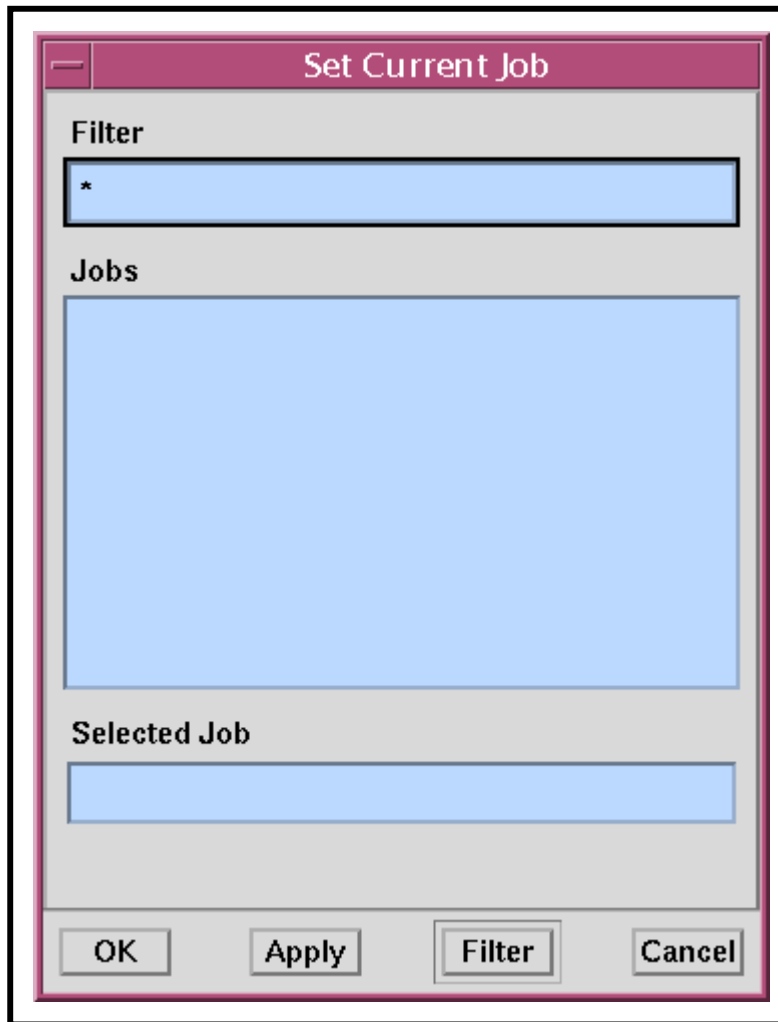

Figure 60. Set Current Job Dialogue Box
- **Set Current Job** dialogue box (Figure 60) is displayed.